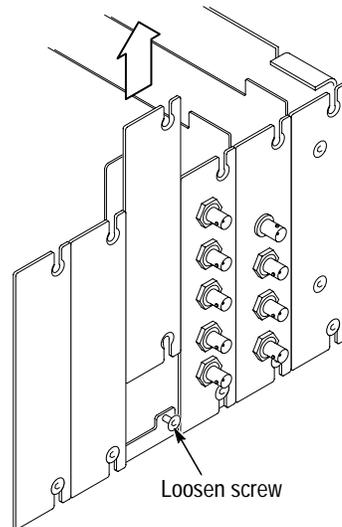

Figure C-3: Rear panel removal
5. Remove the appropriate rear panel as shown in Figure C-3. Loosen, but do not remove the bottom screw. You will use it later to secure the module.
4. Remove the appropriate rear panel as shown in Figure C-3 on page C-4. Loosen, but do not remove the bottom screw. You will use it later to secure the rear panel.